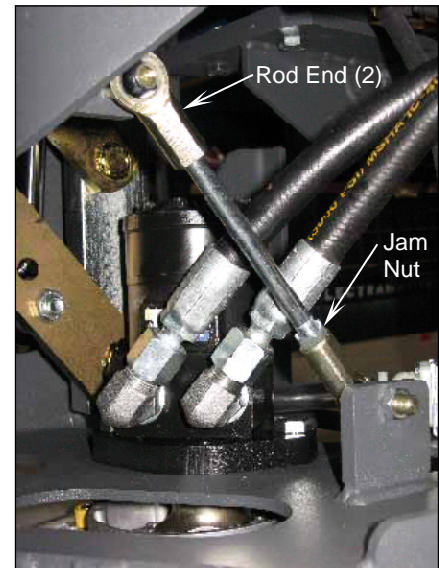

FIGURE 10
- 1 See Figure 10. Disconnect one of the two Rod Ends from its mounting tab.